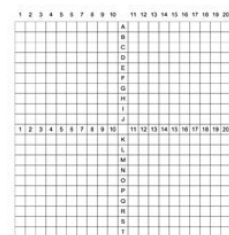

Figure 5. 0.5mm Gridded Cover Slip
- Vinyl Microscope Slide Cover Slips (Figure 5)
We used cover slips gridded with 0.5mm squares in a 20x20 pattern (Figure 5) as overlays on the printed samples to quantify the size and spacing of the dot patterns. The microscope, set to 60x magnification, was used to capture images of the samples. The resulting images were then imported into AutoCAD. The cover slip grid was used as a reference distance of 0.5mm to determine all other observed distances (see the Appendix for images).